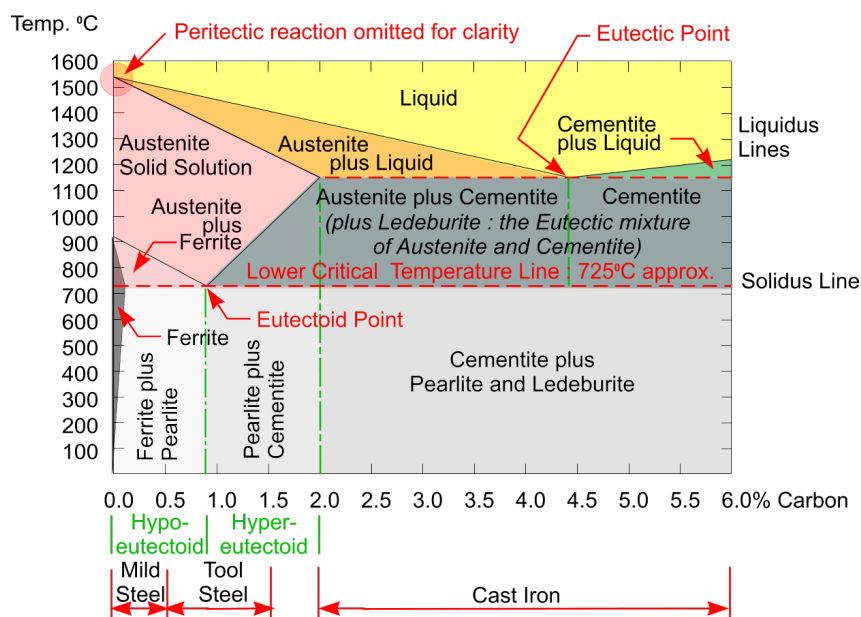

Figure 4: Task 6.3
3. Iron-Carbon Phase Diagram (fig. 4). What can you understand from the diagram?